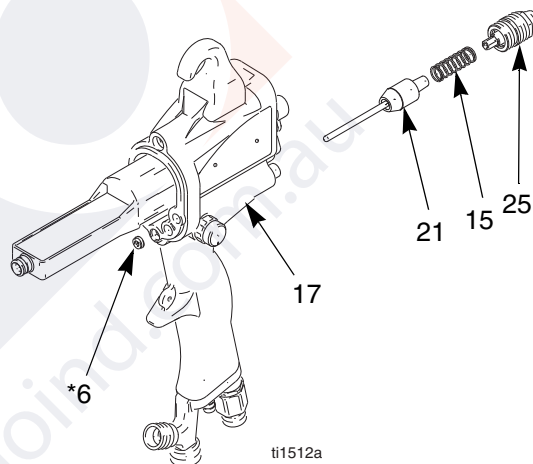

Fig. 21. Air Valve
3. Remove the fluid adjustment valve (25) from the handle (17). Remove the spring (15). See FIG. 21..